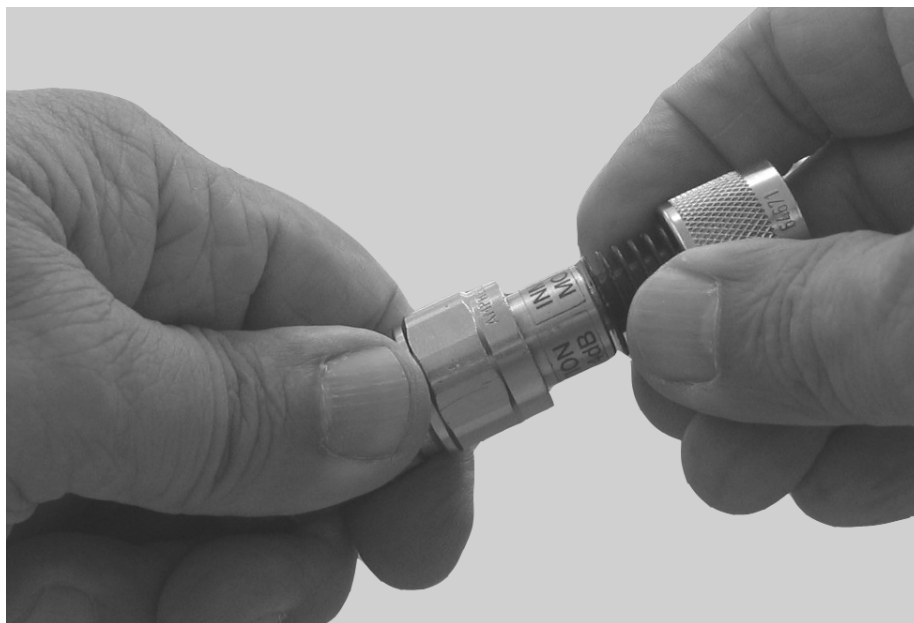

Figure 40 Connect RF N-type Load or Attenuator to Reader Cable End
1. Terminate the reader end of the RF cable with any N-type load or RF attenuator (Figure 40).